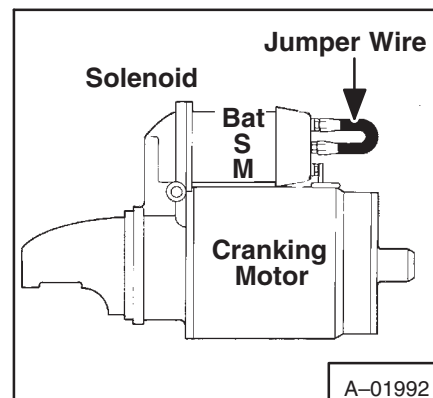

Fig. 6-26 Checking Solenoid
3. Connect a jumper wire between the small connection on solenoid and the battery connection on solenoid (Fig. 6-26). If the starter turns, but does not turn the engine, the defect is in the starter drive. If the starter does not turn, continue with step below.